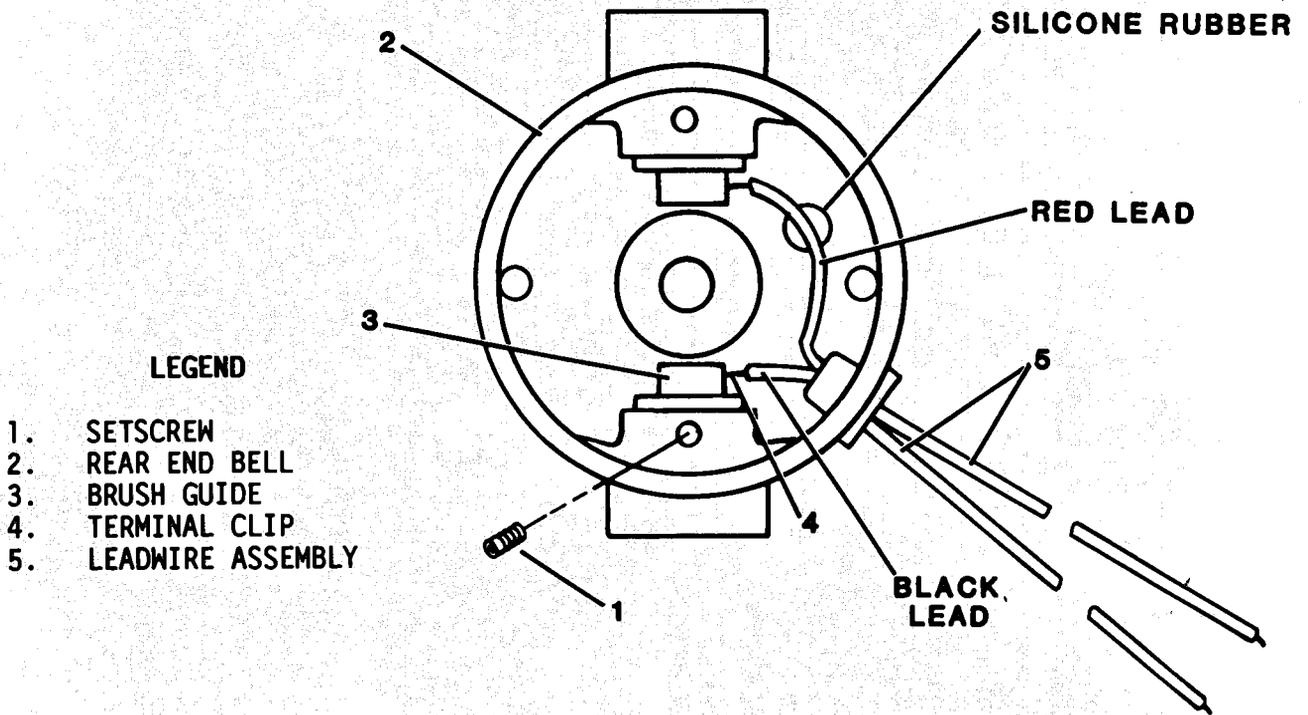

Figure 6-6. Replacing Broken Brush Guide
(a) Remove setscrews (1, figure 6-6) from rear end bell (2) to release brush guides (3).
(g) Make sure leadwire assembly is positioned as shown in figure 6-6.